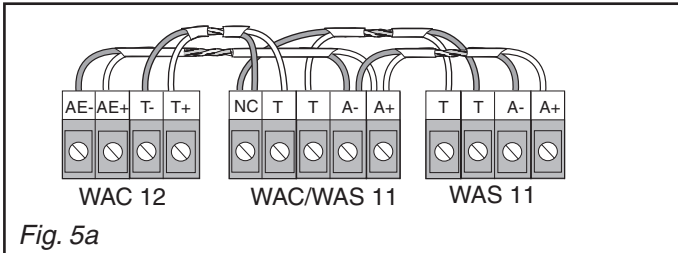
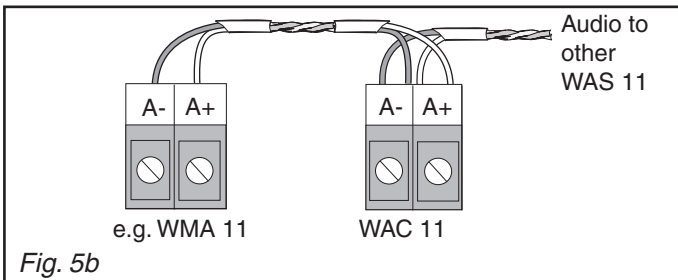
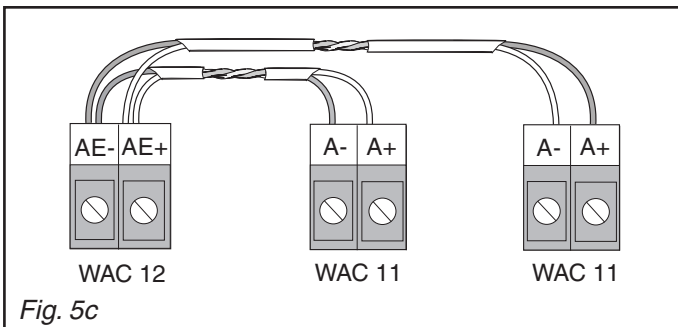
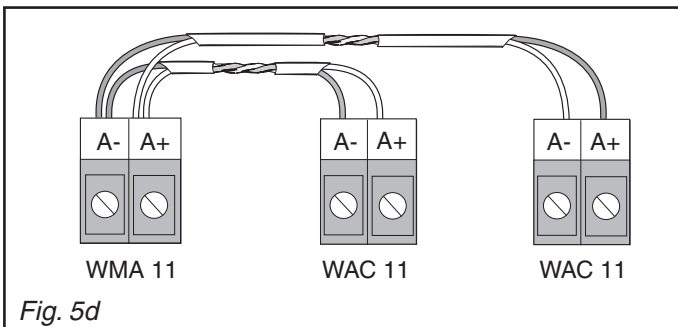

Fig. 5a
Fig. 5b
Fig. 5c
Fig. 5d
To avoid side-tone, a twisted core pair at least 0.6 mm in dia. must be used. The audio connection to the central control unit must not be more than 200 m long. The audio output depends on the cable length and core cross-section. The audio output (A- and A+) of the WAC 11 is connected to the audio input (AE- and AE+) of the WAC 12, which acts as a master (Fig. 5a). Alternatively, the audio output (A- and A+) of the WAC 11 can be directly connected to the audio input (A- and A+) of the central control unit (e.g. WMA 11) (Fig. 5b). Where several WAC 11 are used, all WAC 11 must be connected directly to the WAC 12 (Fig. 5c) or to the central control unit (Fig. 5d) to obtain optimum performance.
4.2 Tamper (Fig. 5a)